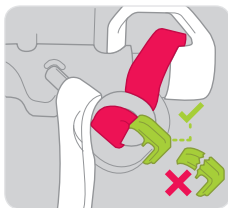

Figure 7
- Inspect the release pin for signs of damage, distortion, corrosion or cracking. Ensure that it is engaged. Ensure that the red release cord is positioned under the release pin and that the load-line webbing is looped around the release pin (Figure 7).
- Ensure that the green release pin clip is present and undamaged—check for signs of damage, distortion or cracking (Figure 7).